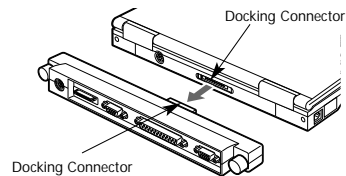

Figure 5-6 Removing the Port Replicator
3. Pull the Port Replicator away from the notebook until the Docking Connectors are clear. (Figure 5-6.)